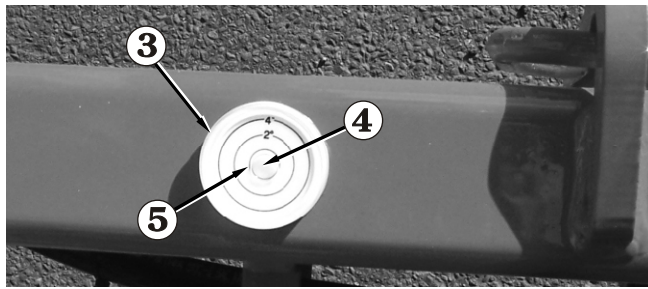

Figure 8.22
3. Visually check the bubble level ③ to determine which stabilisers must be further extended to level the platform (see Figure 8.22).
4. Lower the appropriate stabilisers just enough to center the bubble ④ (see Figure 8.22). When the **Lift Indicator Light ⑥** (see Figure 8.23) comes on, the platform can be safely raised.